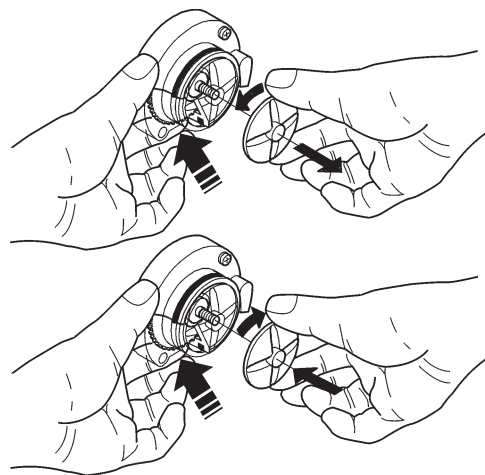

Fig. 24
- in order to remove the impellers, block the disk fitted on the mixer shaft with a finger (see Fig. 24), then rotate the impeller to undo it.